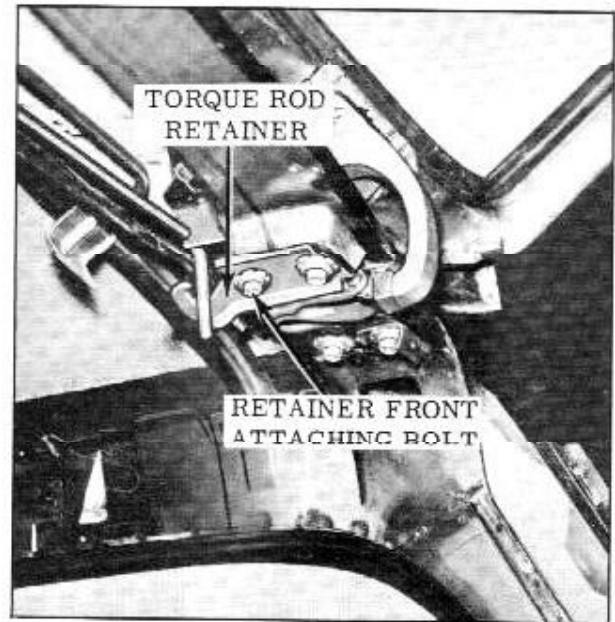

Fig. 15-51 Back Door Hinge & Torque Rod Retainer
2. With the aid of a helper to hold back door, remove hinge-to-back door attaching bolts. (Fig. 15-51)
- b. Mark position of torque rod retainers, (Fig. 15-51), at both right and left hinges to facilitate repositioning of retainers in same fore and aft position.
- c. Using a suitable length of pipe over end of torque rod, release tension of torque rod from retainer. While tension of torque rod is released from retainer, loosen retainer attaching bolts, (Fig. 15-51), then, release retainer. Loosen the two remaining hinge attaching bolts. Perform this operation at both right and left hinges.